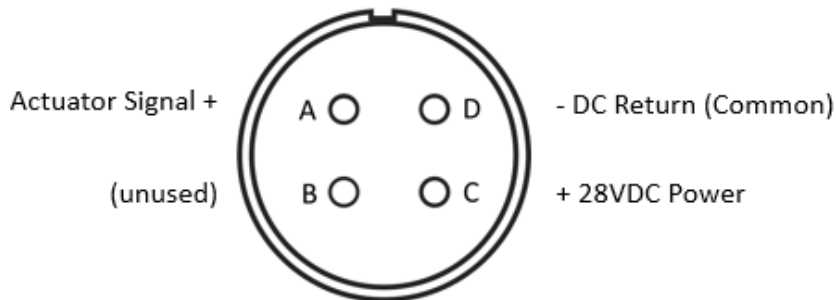

Figure 26: Mating Face of DC Harness Plug (P4)
**\*\*NOTE\*\*:** Figure 26 below depicts the contact arrangement of the DC harness connector as viewed from its mating face.